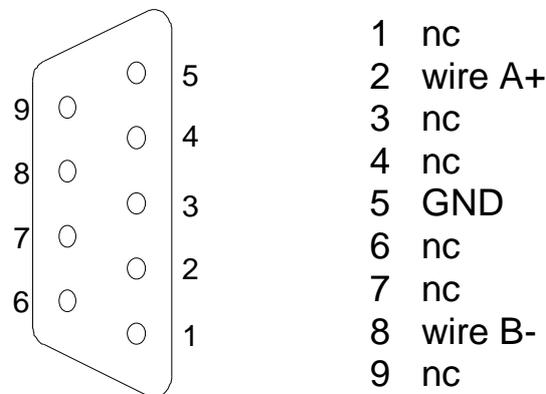

Fig. 11
The 9-pole Sub-D-Connector is located on the back of the CPU-assembly (fig. 2, item 1). For pin assignment see fig. 11.